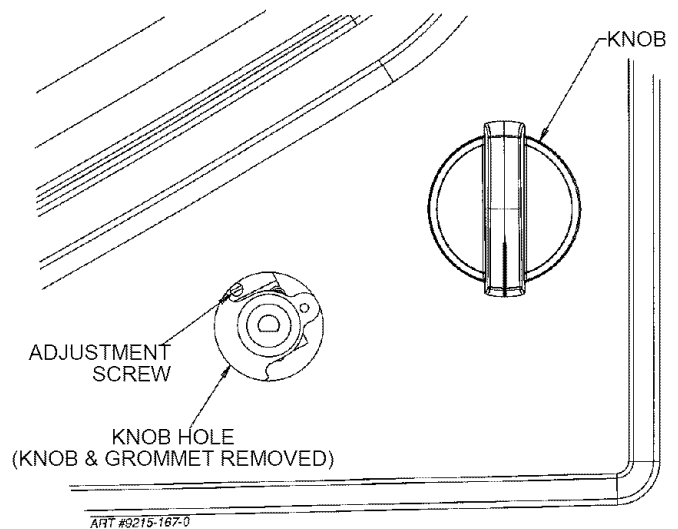

FIGURE 13
C. LOW FLAME ADJUSTMENT (See figure 13)
3. Locate the valve adjustment screw. See figure 13.
4. Locate the valve adjustment screw. See figure 13.